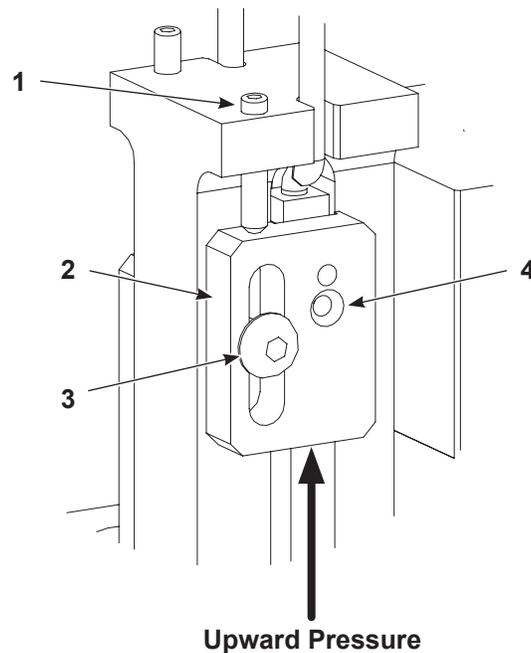

Figure 6 Typical Proximity Switch Adjustment
2. See Figure 6. Loosen the screw (3) until the switch plate (2) moves freely.
3. While applying upward hand pressure on the switch plate (2), perform the following:
- a. Using the 1.5 mm hex key, turn the adjusting screw (1) counterclockwise until the LED (4) goes out.
- b. Slowly turn the adjusting screw (1) clockwise until the LED (4) comes on. Turn the adjusting screw another ¼ turn clockwise.
- c. Tighten the screw (3) to 14 in.-lb (1.3 N•m).
- a. Using the 1.5 mm hex key, turn the adjusting screw (1) clockwise until the LED (4) is on.
- b. Slowly turn the adjusting screw (1) counterclockwise until the LED (4) goes out. Turn the adjusting screw another  $\frac{1}{4}$  turn counterclockwise.